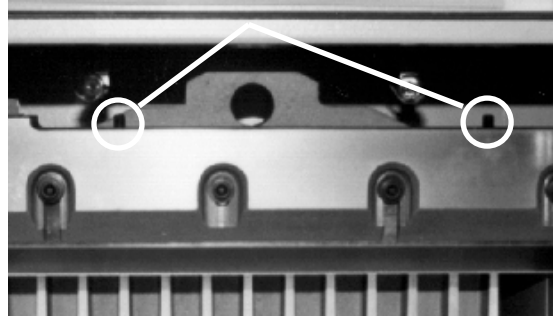

Figure 20
2. Back off the knife adjusting screws on top of the knife bar several turns (Figure 20). A new knife will cut deeper than one that has been ground several times. Failure to back off the screws could damage the knife and/or the cutting stick.
6. Double check to make sure the knife adjusting screws have been backed out all the way (Figure 20, page 39). Guide the blade, left edge first, into the space between the knife bar guide frames on the left. Move the right end of the blade into the machine, under the knife bar slot. Align the lifters with the slots in the knife bar, raise the knife into the knife bar slot as high as it will go and tighten the lifters.